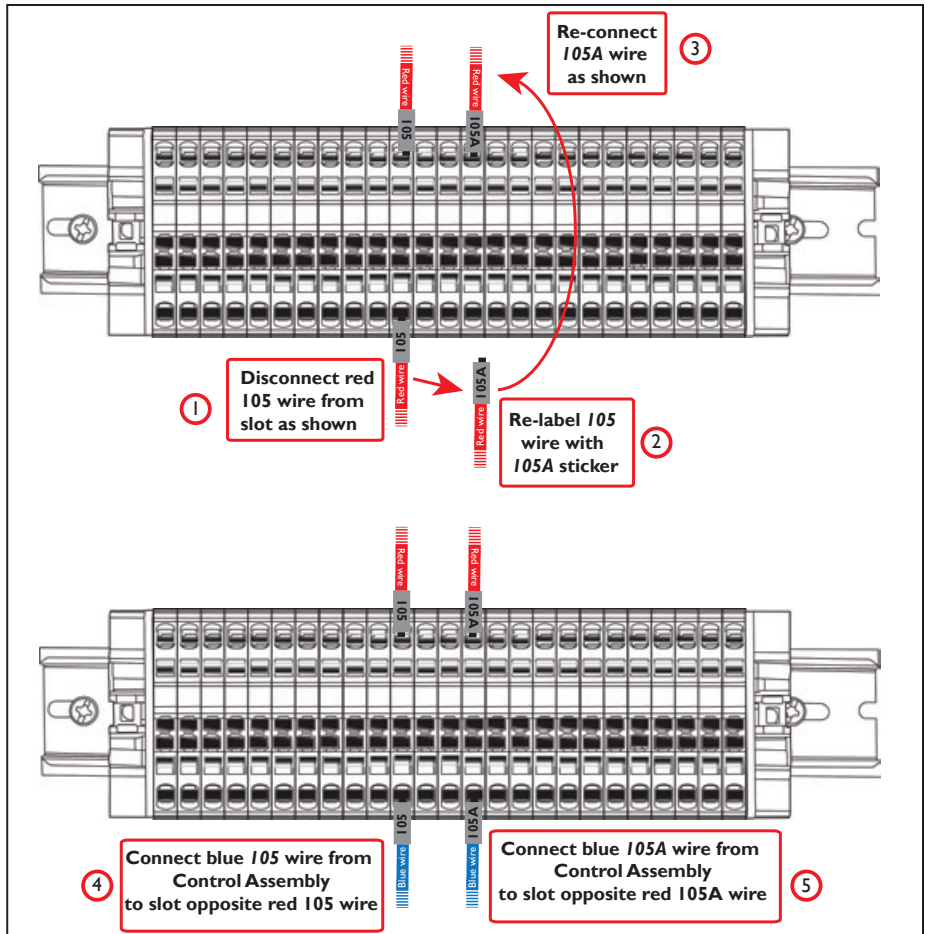

Figure 18
NOTE: For both the terminal block and strip, the wiring numbers and layout shown in **Figure 18** are the same.
2. Following the instructions in **Figure 18**, put the new spindle door wires in series with the spindle door switch circuit. Some wiring configurations may appear different than shown, but wire numbers and layout are all the same.